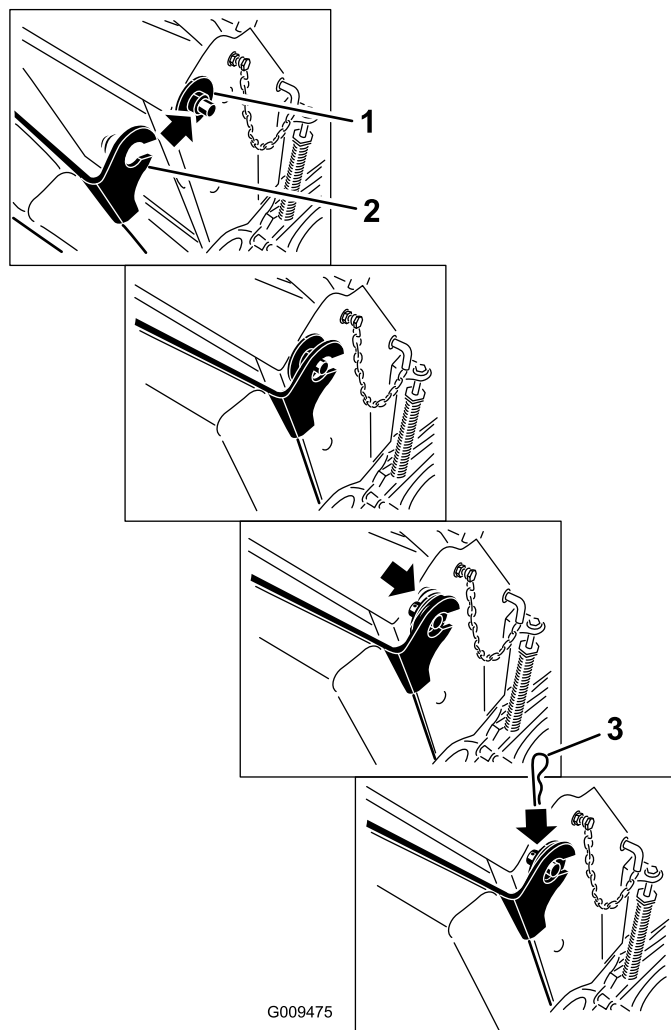

Figure 35
6. Raise the cushion and slide it onto the pins on both sides of the machine (Figure 35).
7. Slide the large washers plastic bushings into the cushion bracket and secure them with a hairpin cotter pin (Figure 35).